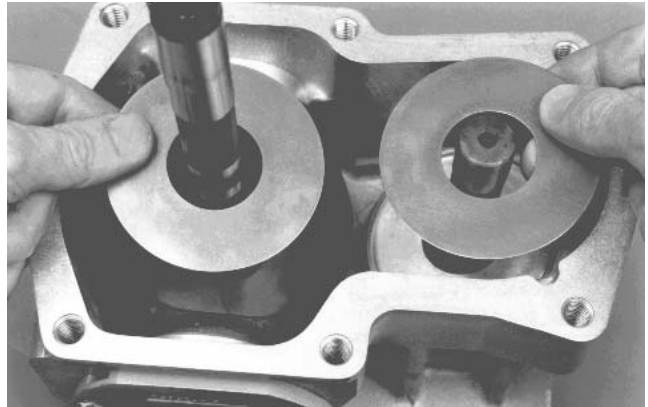

Figure 65
13. Coat thrust plates with petroleum jelly and install into housing and swashplate (Fig. 65). The thrust plates are reversible.